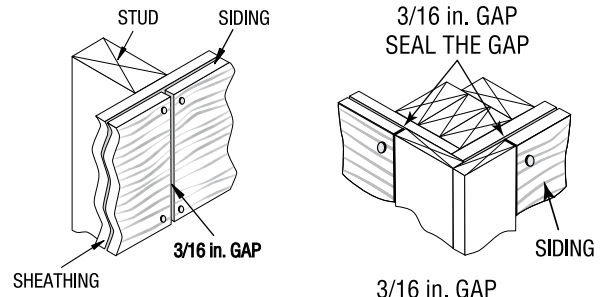

Figure 2
- All lap products require that the butt joints be located on the studs and nailed at the joints (see Fig. 2 and 3).
- For Designer Shake Lap Siding, leave 3/16 in. gap at all butt joints (see Fig. 2).
- All siding joints must be located on studs (see Fig. 2).
- For square edge panels, there must be a 3/16 in. gap at the vertical joint (see Fig. 2). This gap must be sealed. It is recommended to cover the joint with a wood batten strip. TruWood Trim is recommended for batten material.
- Leave 3/16 in. gap around all doors, window frames and corners. Seal all gaps (see Fig. 2 and 3).